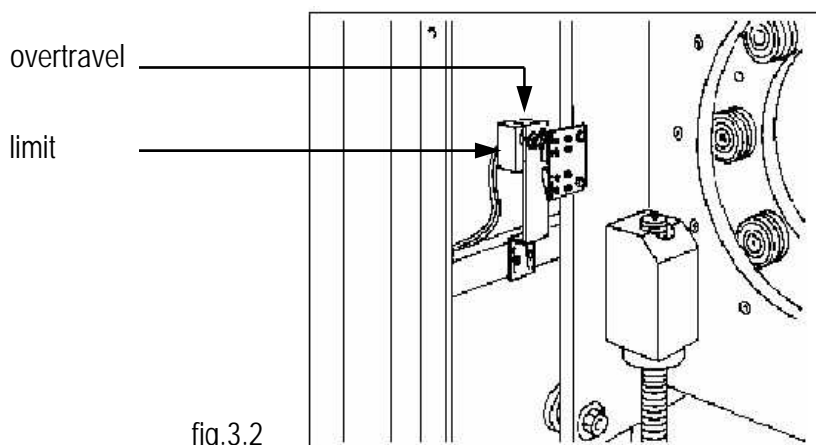

fig.3.2
- ✓ Limit switches (see fig. 3.2).
- ✓ Overtravel switches (see fig. 3.2).